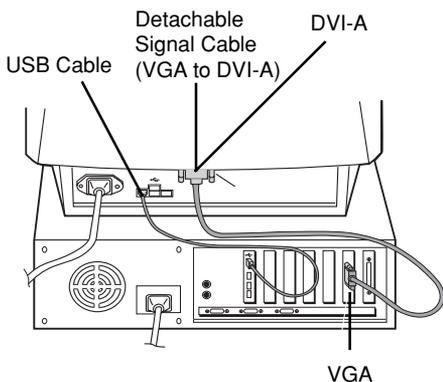

Figure A.1
3. **For the PC Analog output:** Connect the VGA to DVI-A signal cable to the connector of the display card in your system (**Figure A.1**). Tighten all screws.